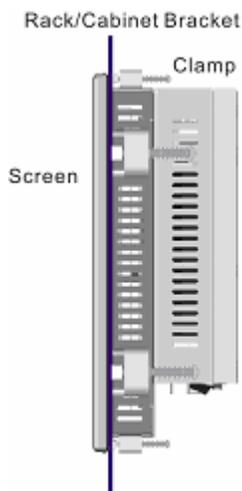

Figure 4-31: Secure the PPC-3708A-N270 Rack/Cabinet Bracket
- Step 3:** Tighten the screws that pass through the rack mounting clamps until the plastic caps at the front of all the screws are firmly secured to the bracket (Figure 4-31).